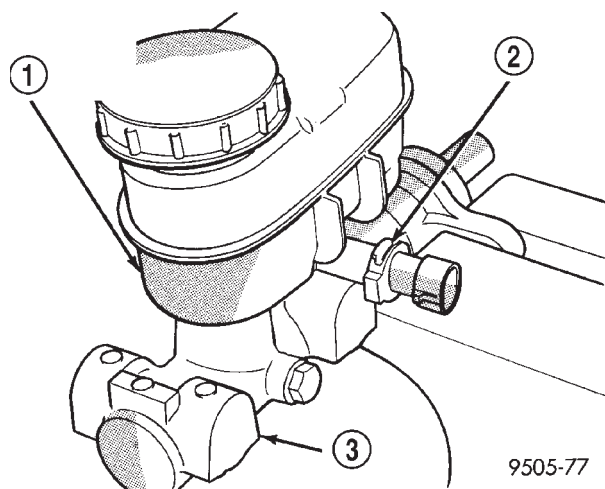

Fig. 61 Removing Fluid Level Switch From Reservoir
(3) While compressing retaining tabs, grasp opposite end of brake fluid level sensor and pull it out of master cylinder fluid reservoir (Fig. 61).